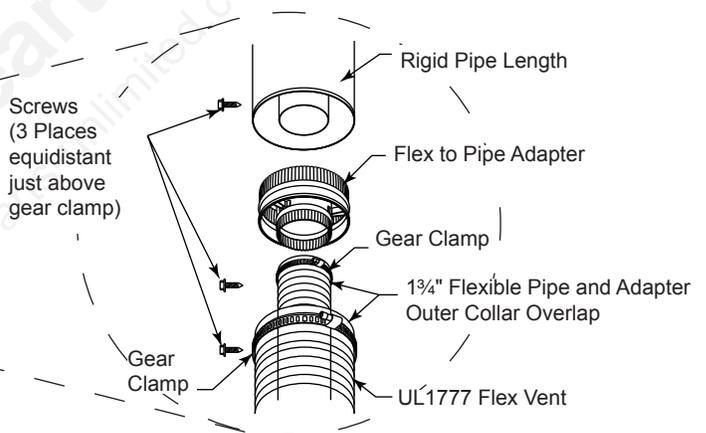

Figure 44 - Typical Pipe Connection
2. Review *Figure 44* and corresponding instructions for proper overlap, clamp and screw placement.